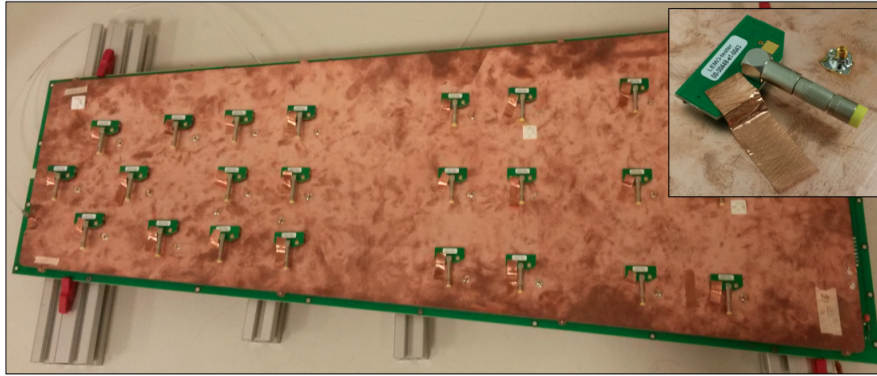

Figure 4.2: QC4 overview of the detector with the grounding plate and the 50 ohm terminations.
2. Fix the grounding plate onto the readout board as shown on Fig. 4.2.
3. Connect the Panasonic-to-LEMO adapters with the 50Ω terminations to all the readout sectors. Connect the ground pad of the PCBs to the grounding plate with copper tape, as shown on Fig. 4.2.